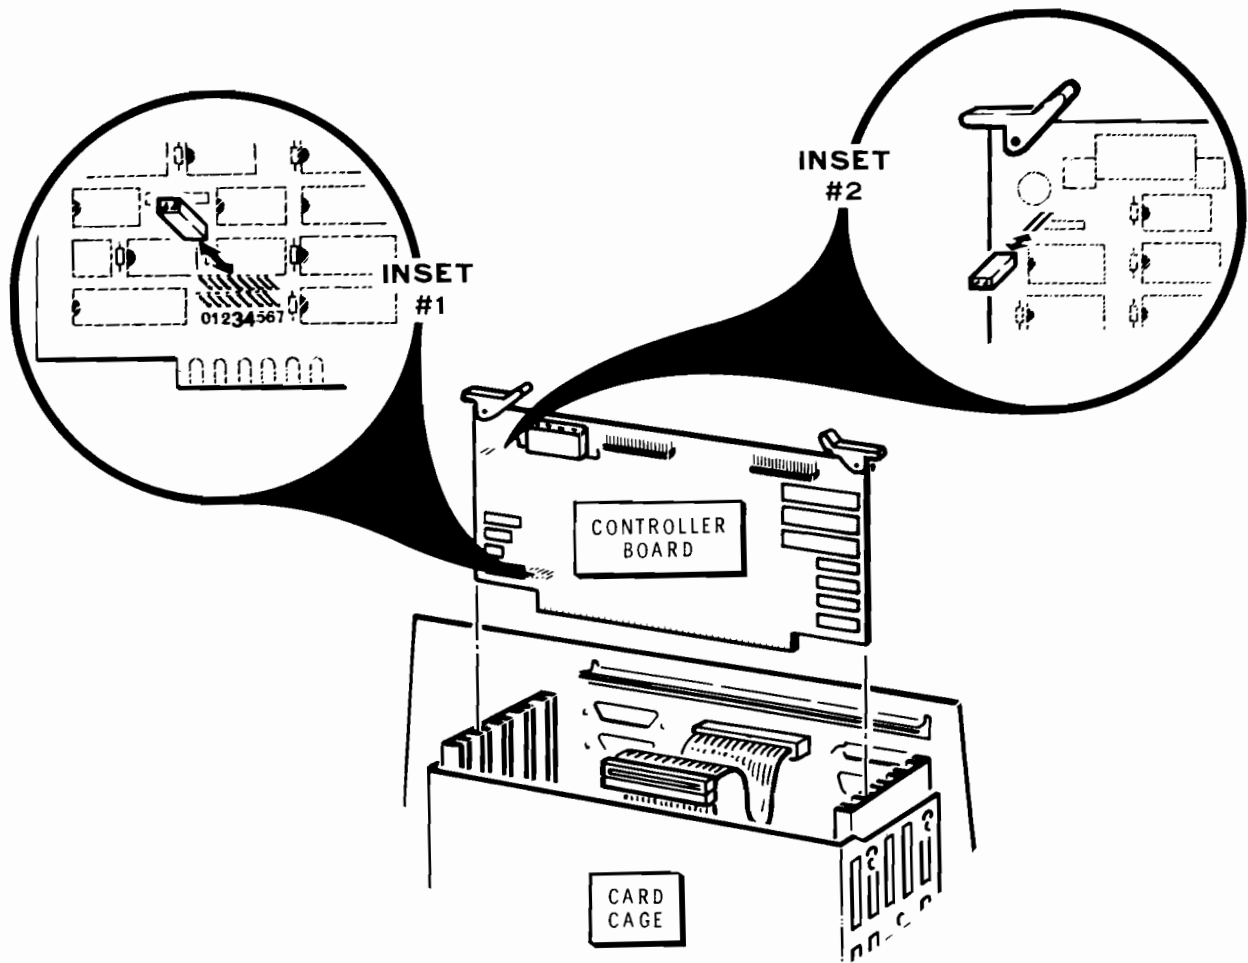

Figure B-2 Z-217 Controller Board Adjustment
5. Gently slide the Z-217 controller board upward until the area shown in Inset #1 of Figure B-2 is above the top of the card cage. Do not remove the Z-217 board completely from the card cage. As you slide the board upward, be certain that some of the board is still anchored between the card cage's vertical tracks.
6. Locate the jumper covering the pins shown in Inset #1 of Figure B-2. Remove this jumper by carefully sliding it away from the board. Be careful not to bend the pins.
7. Locate the two pins shown in Inset #2 of Figure B-2. Carefully slide the jumper over these pins. Be careful not to bend the pins.